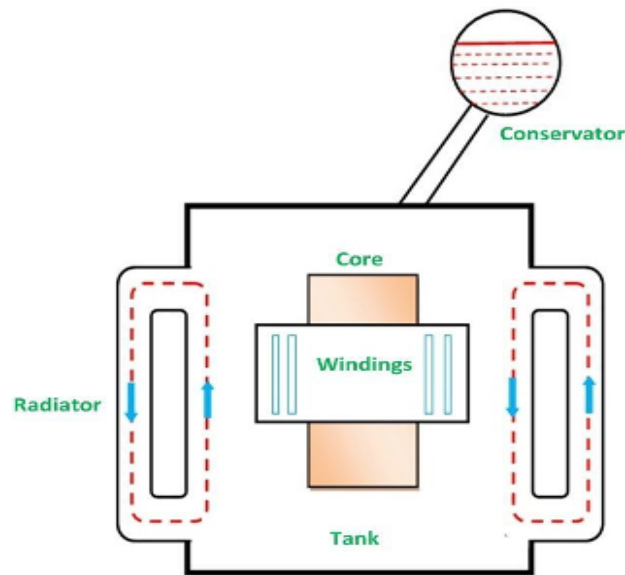

Figure 2.6: Oil Natural Air Natural cooling method
1. **Oil Natural Air Natural (ONAN):** The ONAN method uses the natural convection process of cooling. Both the core and winding of the transformer are immersed in the oil-filled tank of the transformer and so as they heat during the working of the transformer, the heat is transferred to the oil thus raising the temperature of the oil. Through the convection process, the hot oil rises to the top and is replaced by cool oil. The hot oil at the top dissipates heat to the surrounding air and cools down. After cooling, it goes through the radiator again and returns to the transformer to replace other heated oil inside. Transformers up to **30 MVA** capacity make use of this method of cooling. Fig 2.6 shows the type of transformer that utilises this method.